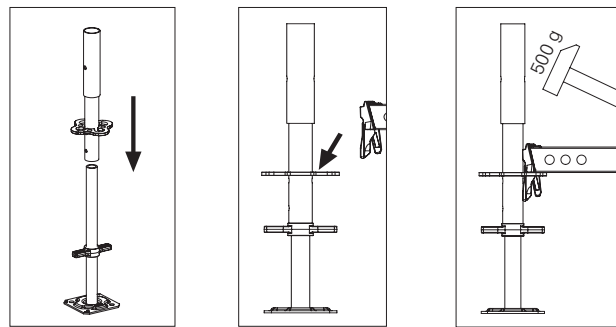

Fig. B3.02
3. Secure wedges on all ledgers using a 500 g hammer. (Fig. B3.02)